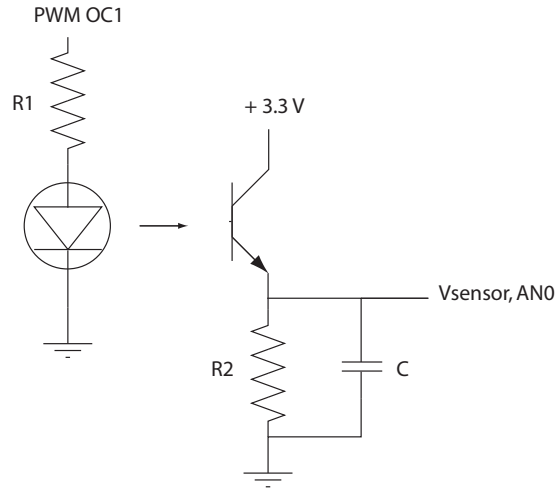

Figure 1: Circuit diagram for LED/Phototransistor, $R1 = 100\Omega$, $C = 10\text{nF}$, see Question 1.1 (a) for $R2$
- (b) Calibrating your sensor is an important step in control applications. For this assignment we are interested in the relationship between the PWM duty cycle at 20kHz and the brightness of the LED as measured by the phototransistor. Wire up the LED and phototransistor as in Figure 1 with $R1 = 100\Omega$ and $C = 10\text{nF}$. You will treat $R2$ as a design parameter in tuning the circuit. Ideally, your choice of $R2$ would allow for the use of the full PWM duty cycle range without saturating the transistor under normal and dark lighting conditions. Instead,
For this assignment you can assume that you will always receive well-formatted inputs (i.e., the user is perfect and will not give your program invalid inputs). You should use `AN0` to read the output signal of the phototransistor and `OC1` to generate a PWM signal. If you haven't already, wire up your components as in Figure 1. In the circuit use $R1 = 100\Omega$, $C = 10\text{nF}$, and use your value from Question 1(b) for $R2$. Here are the basics of the program: